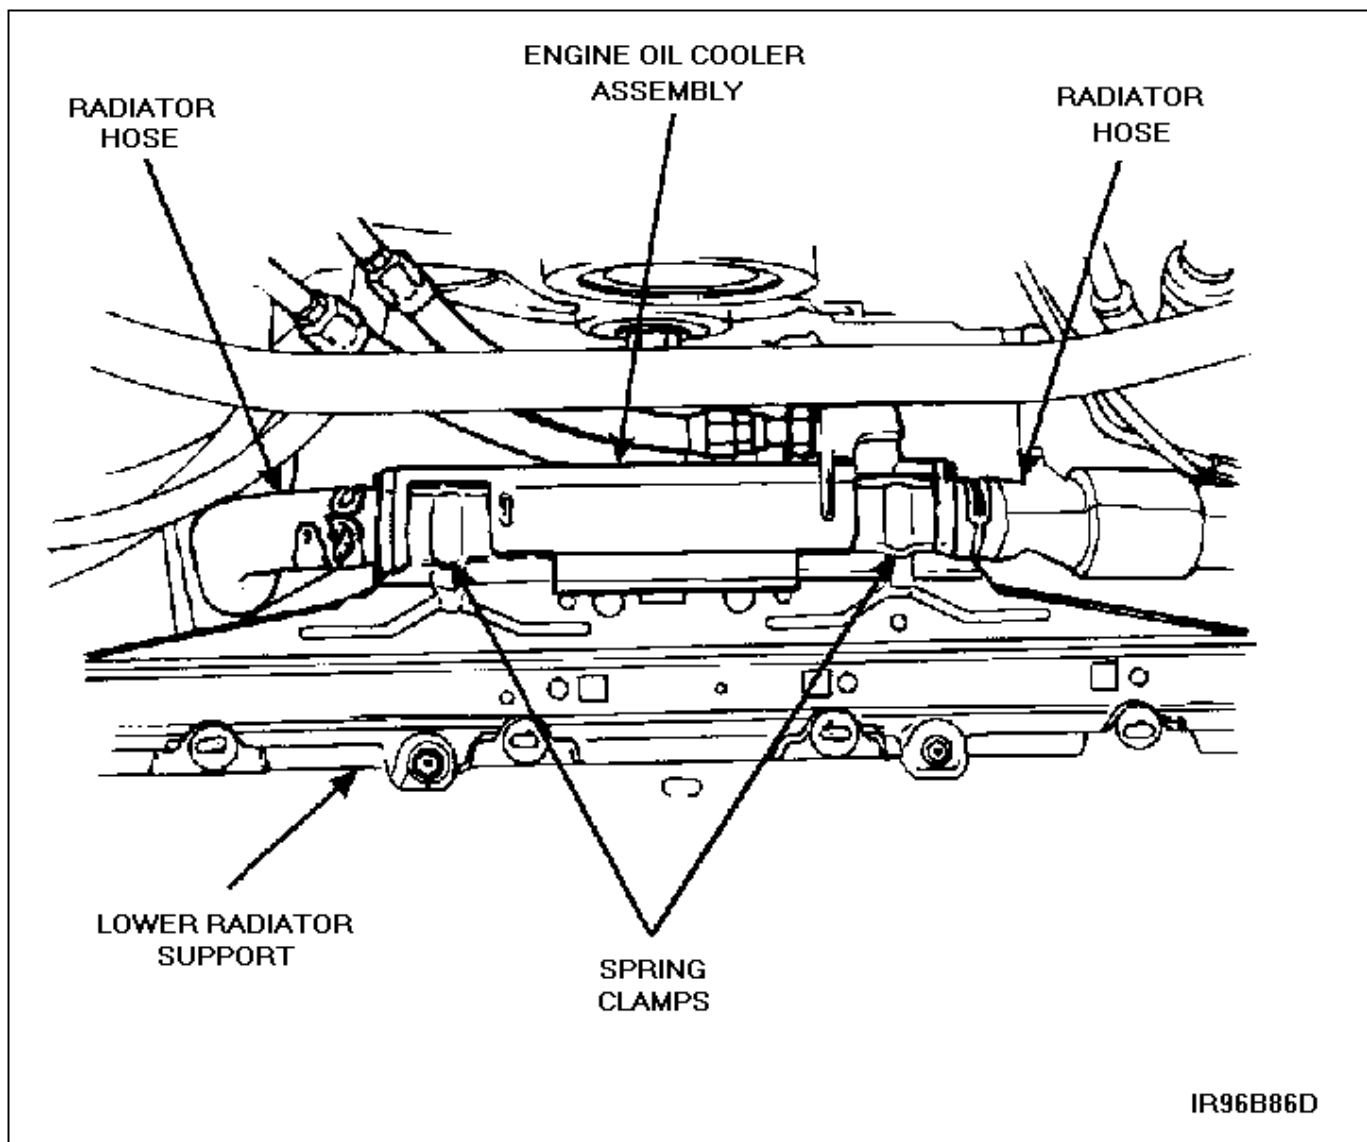

Figure 3
7. The cooler assembly is held in place by two spring clamps. Gently pry cooler away from clamps to disengage then remove cooler assembly from vehicle. See Figure 3.